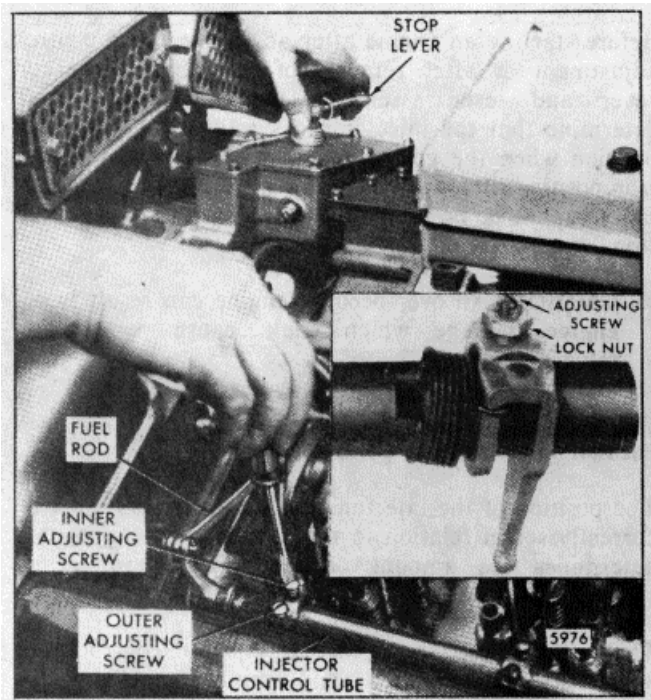

Fig. 11. - Positioning No. 4R Injector Rack Control Lever
4. Move the stop lever to the run position and hold it in that position with a light finger pressure (Fig. 11).